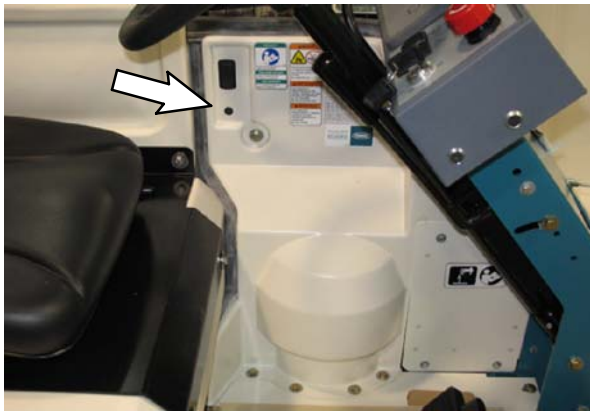

FIG. 5
6. Remove the motor cover panel from the operator compartment. Set the hardware and panel aside. Refer to Fig. 5.